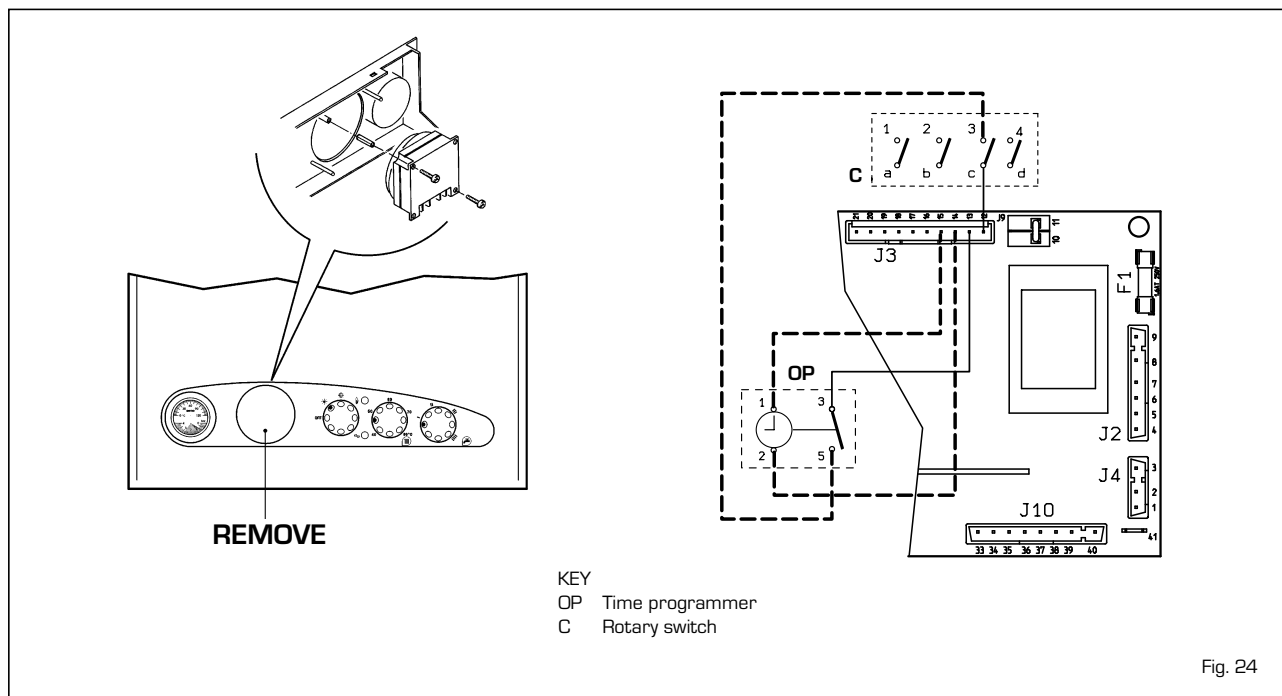

Fig. 24
3.8 TIME PROGRAMMER OPTIONAL (fig. 24)